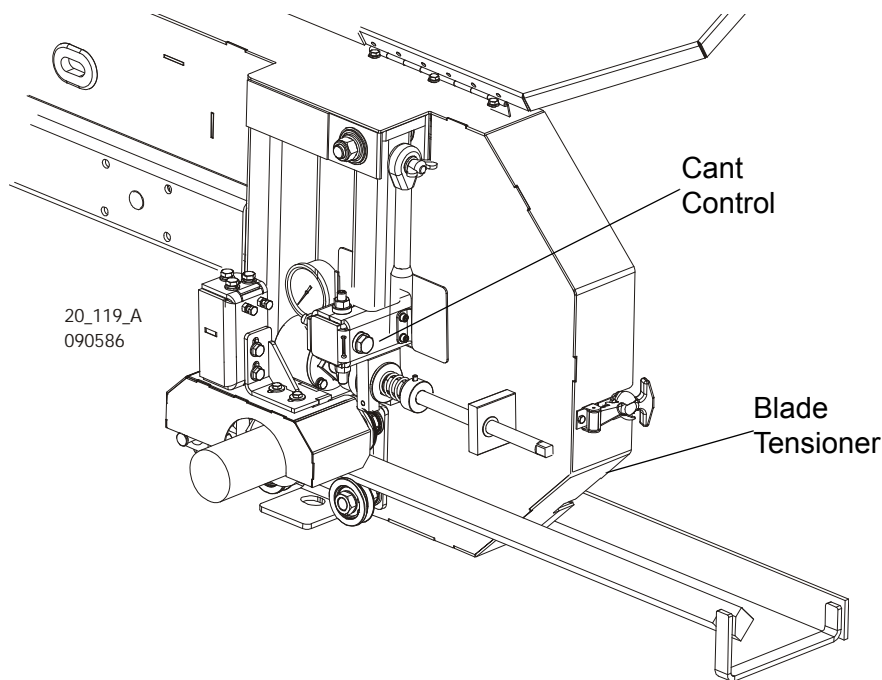

FIG. 5-1
**See Figure 5-1.** Install a blade and apply the appropriate tension. Blade tension is adjusted with the tension handle shown below.